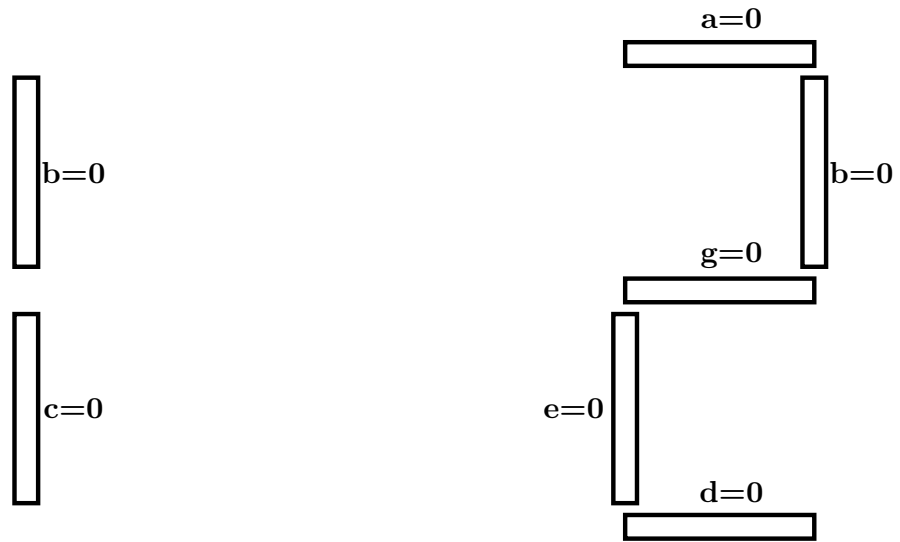

Figure 2.3:
Fig. 2.3 explains how to get decimal digits using the seven segment display. GND=0.
3. Draw the numbers 0-9 as in Fig. 2.3 and complete Table 2.4